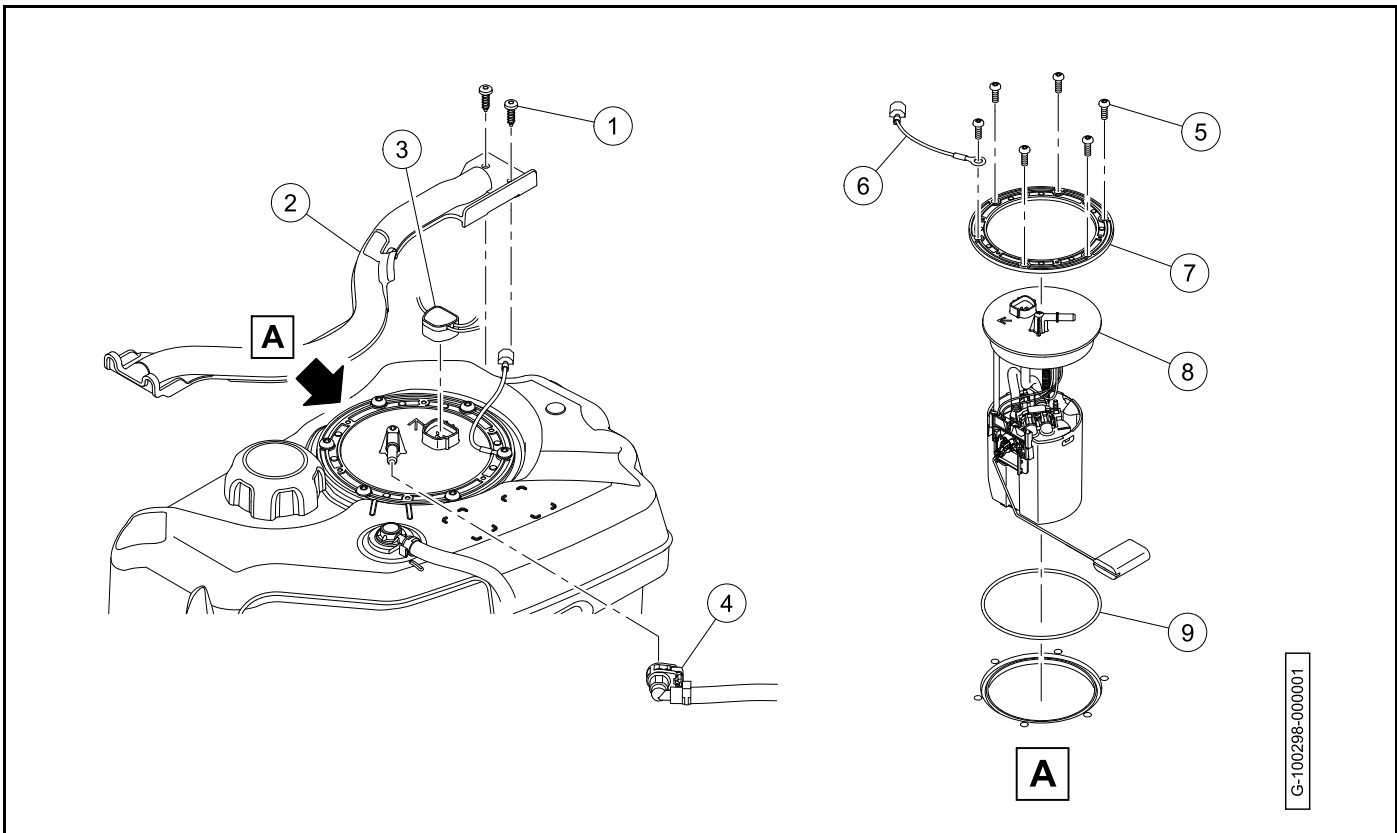

Figure 21-19 Fuel Pump Module Removal
5. Remove the screws (1) (Figure 21-19, Page 21-18).